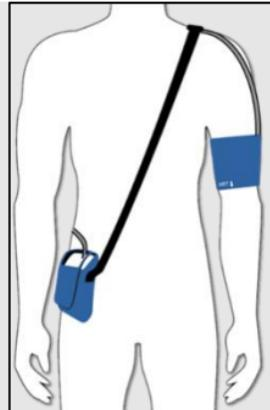

Fig. 1: NBP-24 NG with shoulder strap
- Ensure the correct positioning of the shoulder strap/waist belt and cuff tube, also see Fig. 1.
- The tube connection on the cuff must face upwards, see Fig. 1.